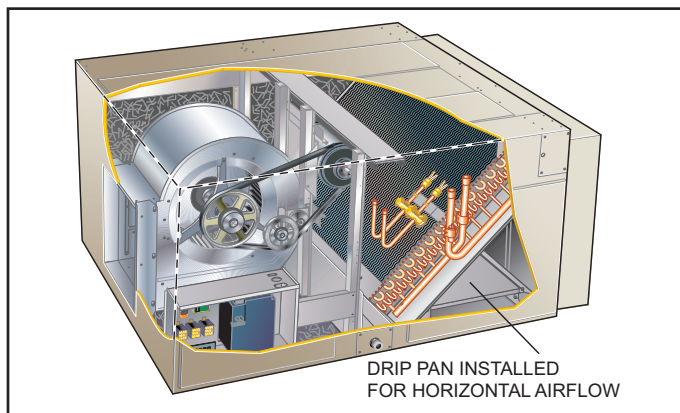
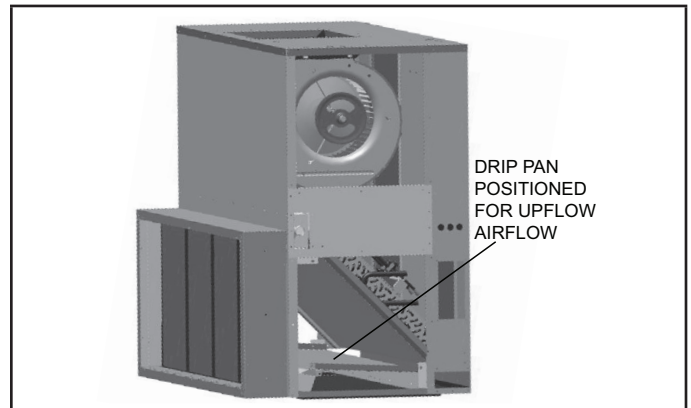
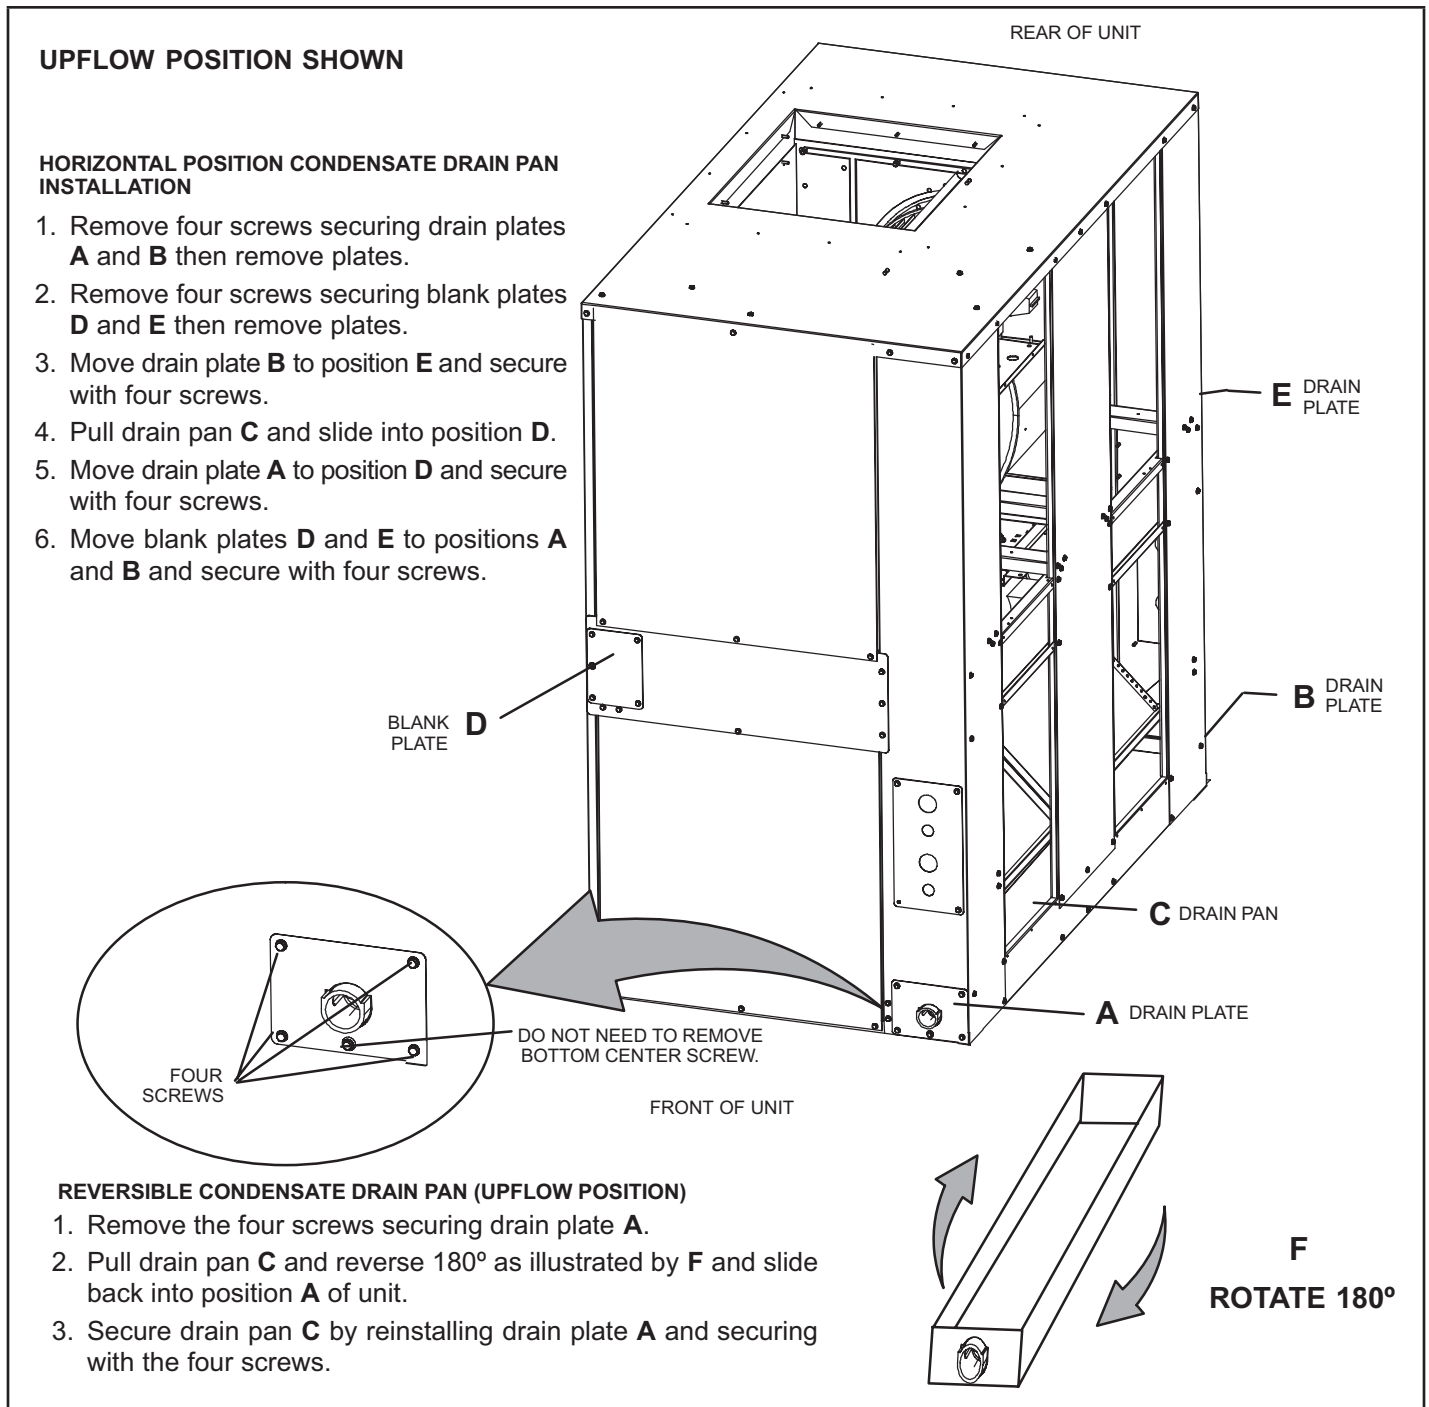

FIGURE 2. Drip Pan in Horizontal Airflow Position
FIGURE 3. Drip Pan in Upflow Airflow Position
FIGURE 4. Reposition Drain Pan for Horizontal Applications
If the unit is installed for horizontal airflow, the drip pan must be positioned as shown in figure 2, and the drain pan must be positioned as shown in figure 4.
- 4 - Move drip pan to location shown in figure 2. Ensure that insulation parts remain on the bottom of drip pan.
If the unit is installed for upflow airflow, the drip pan must be positioned as shown in figure 3, and the drain pan must be positioned as shown in figure 4.
- 4 - Move drip pan to location shown in figure 3. Ensure that insulation parts remain on the bottom of drip pan.